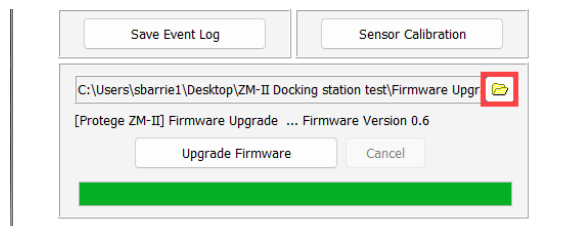

Figure 6-4: IR Connect - Firmware Upgrade
4. Click on the Folder icon to select the firmware file (in *.img format), and then click on “UPGRADE FIRMWARE,” as shown in Figure 6-4. This process takes approximately 30 seconds to complete.